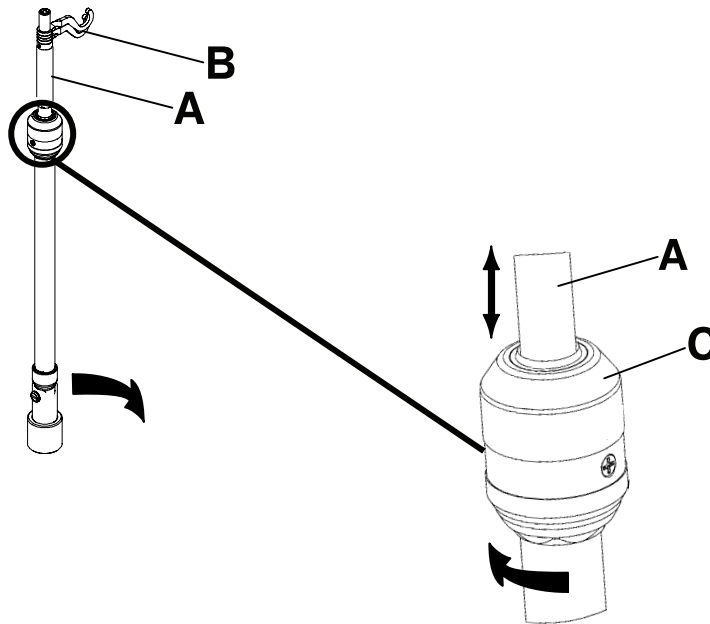

Figure 122: Operating the IV pole
3. To raise the height of the pole, pull up on the telescoping portion (A) until it locks into place at its fully raised position (Figure 122 on page 106).
4. Rotate the IV hangers to the desired position and hang the IV bags (B) (Figure 122 on page 106).
5. To lower the IV pole, turn the latch (C) until the telescoping portion lowers (Figure 122 on page 106).